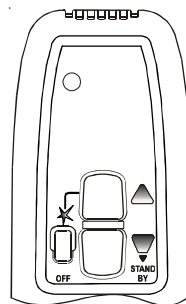

Figure 4: Remote Handset, Standard Model
7. Simultaneously press and hold the  (star) and  (up arrow) buttons (if Infrared Model:   (star, up arrow) and the small lower button) until a short acoustic signal confirms the start sequence has begun; release buttons. Continuing signals confirms the ignition is in process. Once pilot ignition is confirmed there is main gas flow. (see figures 4 & 5)
Simultaneously press and hold the ☆ (star) and ▲ (up arrow) buttons (if Infrared Model: ☆ ▲ (star, up arrow) and the small lower button) until a short acoustic signal confirms the start sequence has begun; release buttons. Continuing signals confirms the ignition is in process. Once pilot ignition is confirmed there is main gas flow. (see figures 4 & 5)
- Set thermostat (if equipped) to desired setting or use remote control to adjust flame. In standby mode: press ▲ (up arrow) to increase flame height, press ▼ (down arrow) to decrease flame height or set appliance at pilot flame (see figure 4). For fine adjustment tap the up/down arrows.